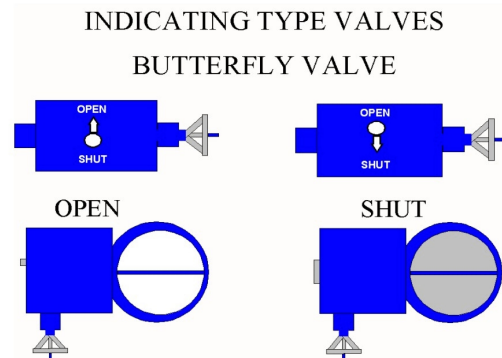

Figure 9
- Butterfly valve [See Figure 9]